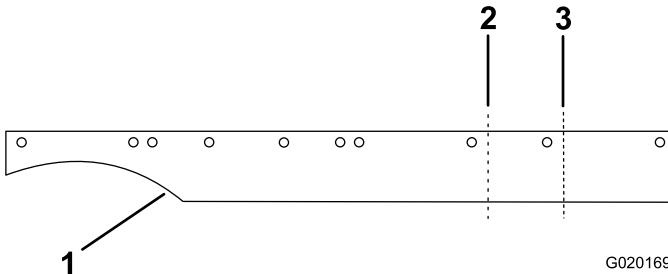

Figure 1
1. Cut the baffle length down to fit your specific deck size as shown in Figure 1. Trim the baffle at the first notch for all 52 inch decks or at the second notch for all 60 inch decks.